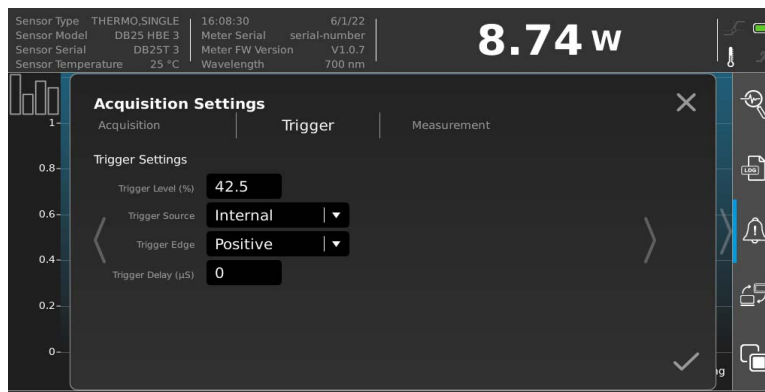

Figure 6-22. Acquisition Settings - Trigger
3. Press the **Trigger** tab to display Trigger settings. Refer to Figure 6-22. For more information about the settings on this menu, refer to 'The fields are used to set the buffer capacity. The user sets 2 of the 3 settings and the other is calculated based on these.' (p. 52).